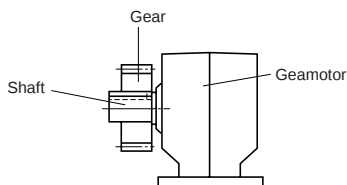
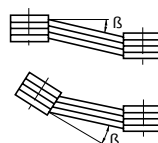

Fig.27
Fig.28
(2) When using a Chain Sprocket and Gear
- Install sprocket and gears so that their point of load application will be closer to the gearmotor side with respect to the length of the shaft. (Fig.27)
(3) When using a V-belt
- The parallelism and eccentricity (β) between two pulleys should be within $20'$. (Fig.28)